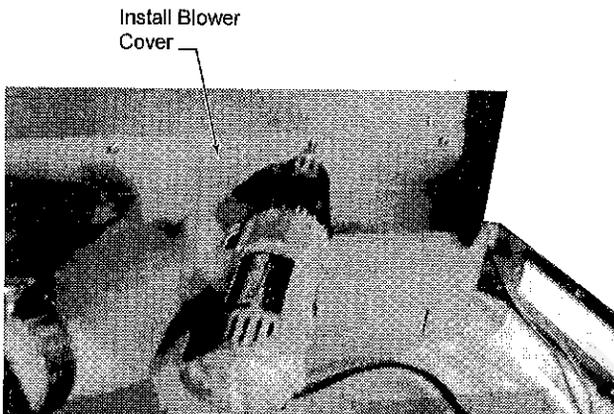

Figure 7
2. **LHEC models only:** Install the blower cover. *Figure 7*